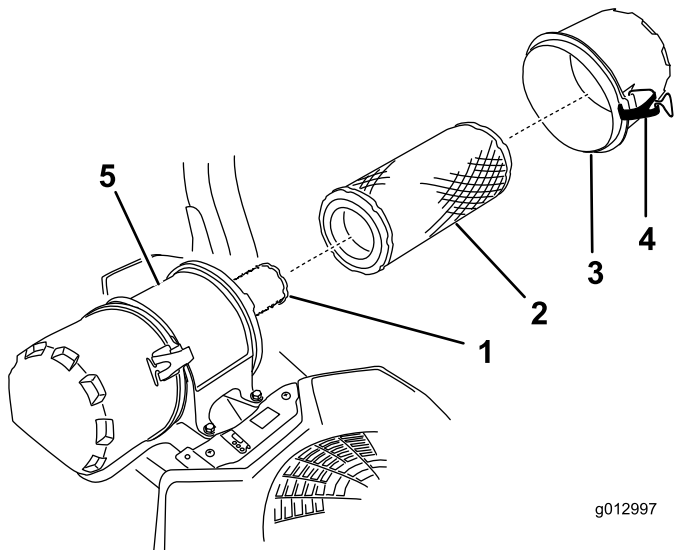

Figure 44
- Release the latches on the air cleaner and pull the air-cleaner cover off the air-cleaner body (Figure 44).
- Gently slide the primary filter out of the air-cleaner body (Figure 44).
- To replace the safety filter, carefully slide it into the filter body (Figure 44).
- Carefully slide the primary filter over the safety filter (Figure 44).
- Install the air-cleaner cover and secure the latches (Figure 44).